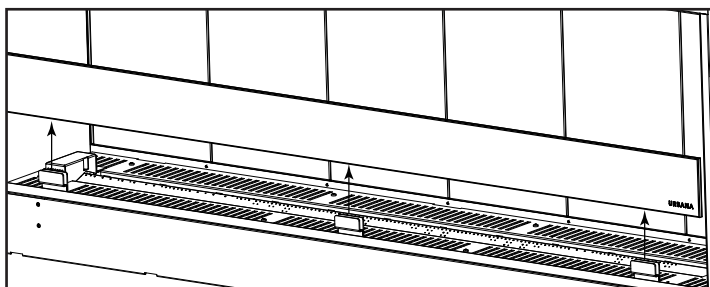

Figure 41: Wind Gaurd Removal
Step 1. Remove the glass wind guard (Figure 41), any logs and media, and the pilot shield (Figure 42).